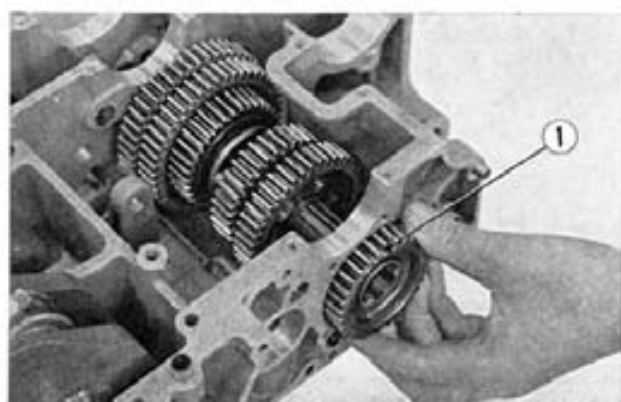

Fig. 5-6 ① Countershaft top gear
7. Remove the countershaft top gear. (Fig. 5-6)